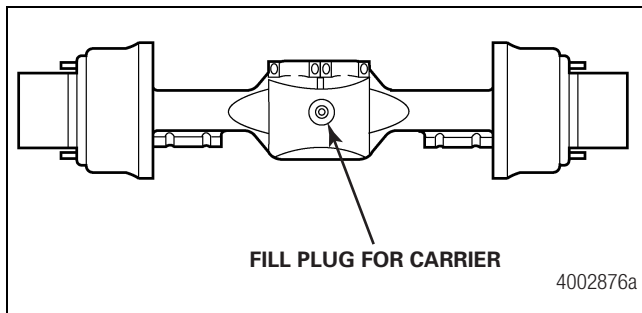

Figure 2.34
- The carrier fill plug is located in the axle housing bowl. Figure 2.34.